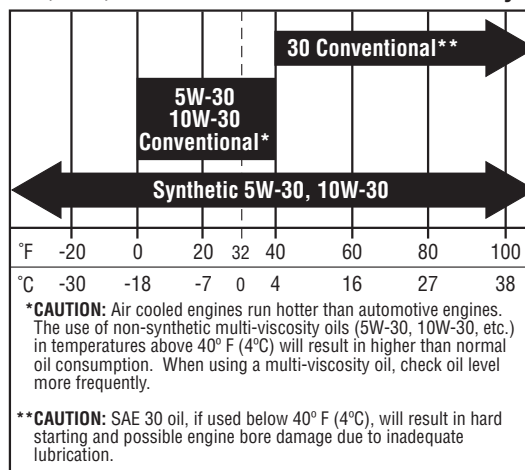
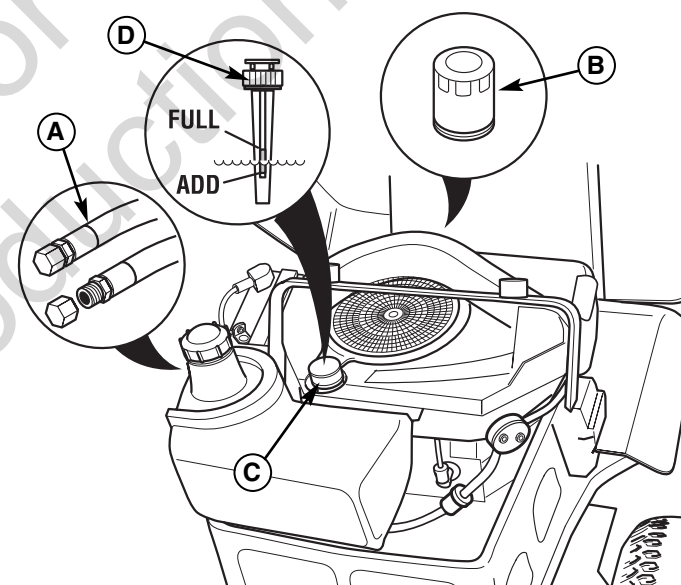

Figure 35. Recommended Engine Oil - Briggs & Stratton Models
Figure 36. Oil Change - Briggs & Stratton Models
2. Clean the area around the dip stick (C, Figure 36).
3. Remove the dip stick (C) and clean it with a paper towel.
4. Insert the dip stick back into the engine. Thread the cap back into the tube (D).
5. Remove the dip stick and read the oil level. The oil level should be between the "FULL" and "ADD" marks (D). If not, add oil according to the oil recommendations chart (Figure 35).
1. Clean the area around the dip stick (C, Figure 36) and oil drain tube (A).
2. Remove the oil drain plug (A) from the end of the oil drain tube. Remove the dip stick (C). Allow ample time for complete drainage.
3. Reinstall the oil drain plug (A) and route the hose next to the engine.
1. Clean the area around the dip stick (C, Figure 36) and oil drain (A).
2. Remove the oil drain plug (A) and dip stick (C). Allow ample time for complete drainage.
3. Remove the oil filter (B). Discard the filter.